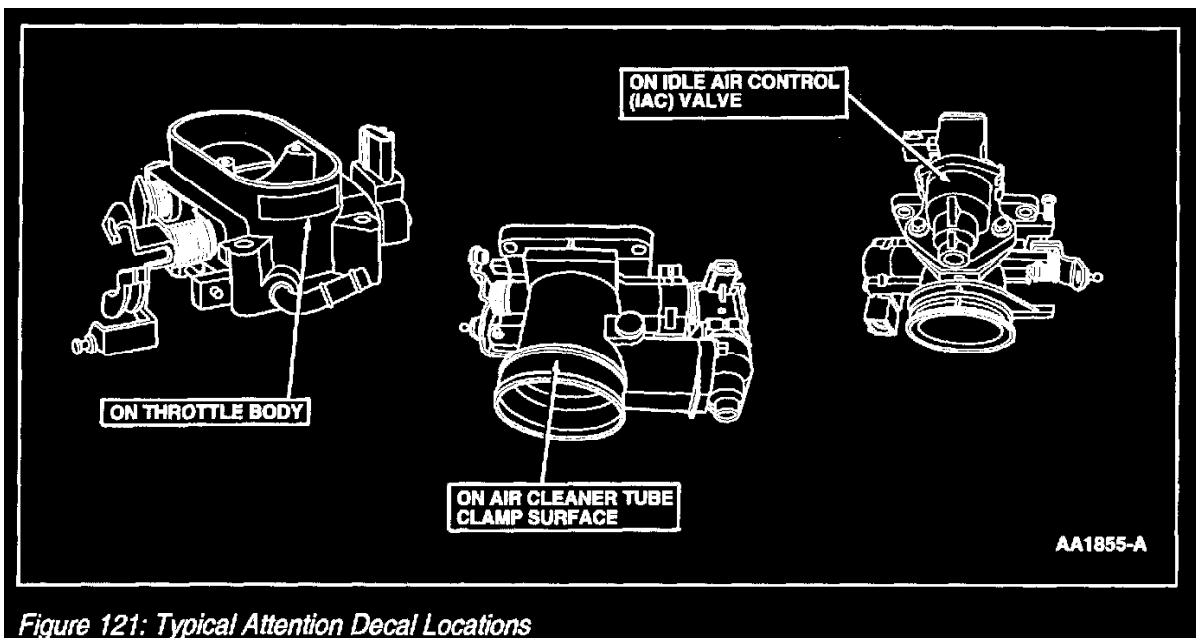

Figure 121: Typical Attention Decal Locations
- A sealant/coating on the throttle bore and throttle plate makes the throttle body air flow tolerant to engine intake sludge accumulation. These throttle body assemblies **MUST NOT BE CLEANED** and have a white/black attention decal (Figure 121) advising not to clean.